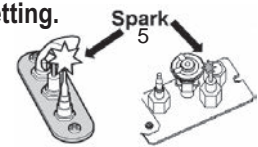

Fig 3
2. SET ON/OFF SWITCH (1) TO "OFF" POSITION.
- Wait five (5) minutes to clear out any gas, then smell for gas, including near the floor. If you smell gas, STOP! Follow "B" in the safety information above on this label. If you don't smell gas, go to the next step.
3. **AUTOMATIC IGNITION (fig. 1):** Locate the pilot (fig 3.) inside of firebox.
- ON/OFF switch (1) in ON position, MAN-knob (2) in ON position; set Flame Adjustment knob (3) to lowest setting (∩)
- When the pilot is lit, the Flame Adjustment knob (3) will automatically rotate to the highest setting.
4. **MANUAL IGNITION (fig. 2):** With the window off, locate pilot (fig. 3) inside firebox;
- ON/OFF switch (1) in ON position, MAN-knob (2) in MAN position;
- Set Flame Adjustment knob (3) to the lowest setting (∩);
- Push down the metallic core (4) with a pen or similar instrument; this will establish the pilot gas flow;
- Light gas at the pilot (5) with a match;
- Continue holding down metal core (4) for about 10 seconds; after release, pilot should remain lit;
- If the pilot will not stay lit after several tries, turn the gas control knob (3) to "OFF" (∩) and call your local service technician or gas supplier.
- Reinstall the window and set the MAN-knob (2) to "ON"; turn Flame Adjustment knob (3) up (∪) or down manually or use the up/down 'flame' buttons on the remote control handset to adjust the flame height.